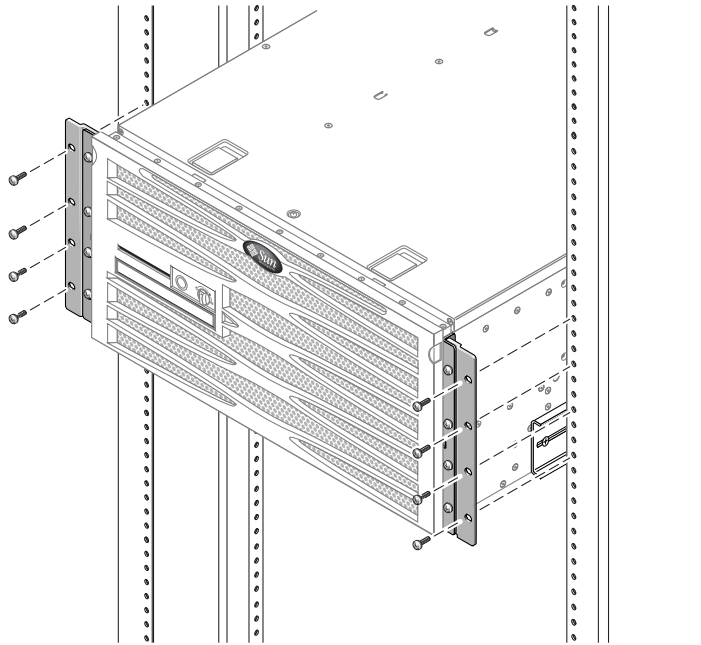

FIGURE 3-21 Attaching the 600 mm Front Adjuster Brackets to the Rack
9. Using four screws per side, secure the 600 mm front adjuster brackets to the front of the rack (FIGURE 3-21).